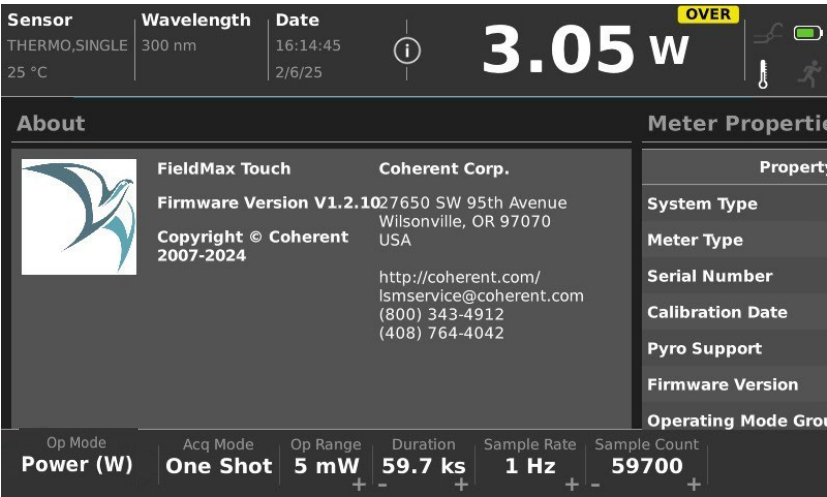

Figure 4-36. About Screen
The Photonics (Laser) Calculator functionality is shown in Figure 4-36. It has tabs for units converter and for standard laser-related parameters. It provides common units conversions for laser parameters.
The Power Limits Calculator functionality is shown in Figure 4-36.
An example About FieldMax Touch is shown in Figure 4-36.
4. Press the MENU button on the FieldMax Touch Meter, and then press the **Firmware Update** button in the Settings menu (refer to Figure 4-36). The Firmware Update dialog displays.
1. In the Settings menu, press the **Restore System Defaults** button in the System Utilities group. Refer to Figure 4-36